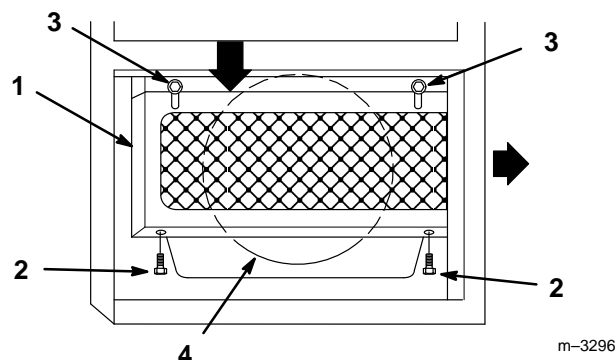

Figure 24
1. To remove cooling screen remove lower bolts and loosen top bolts. Slide screen down and rearward to expose oil cooler (Fig. 24). Save all mounting hardware.
3. Clean off engine air intake (Fig. 24).
4. Install screen from rear and raise over oil cooler. Secure with previously removed hardware (Fig. 24).